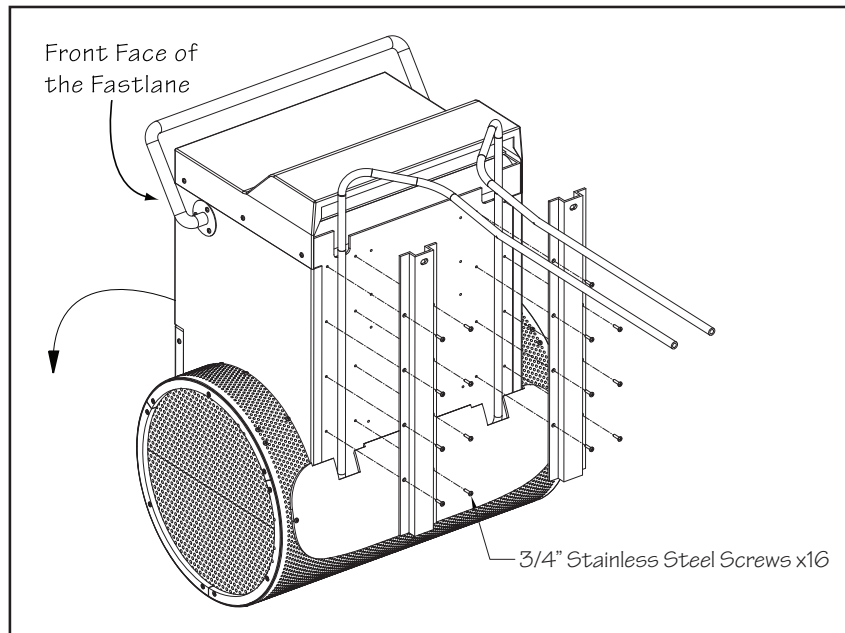

Fig. 6.5
6.7 Carefully lay the Fastlane onto its front face. Run the hydraulic hoses up the back of the upper housing. The two hat channels will be placed over the hydraulic hoses. Make sure that the mounting hole in the end of the hat channel is facing up and that the bottom of the hat channel has been inserted into the notch in the cylindrical base. Use the provided 3/4" stainless steel screws to attach the hat channels to the upper housing. There will be eight screws per hat channel (Fig 6.5).